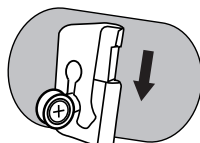

Fig. 3
3. Attach light to bracket by sliding light clip onto bracket (Fig.3). Ensure light is securely attached to bracket before riding.